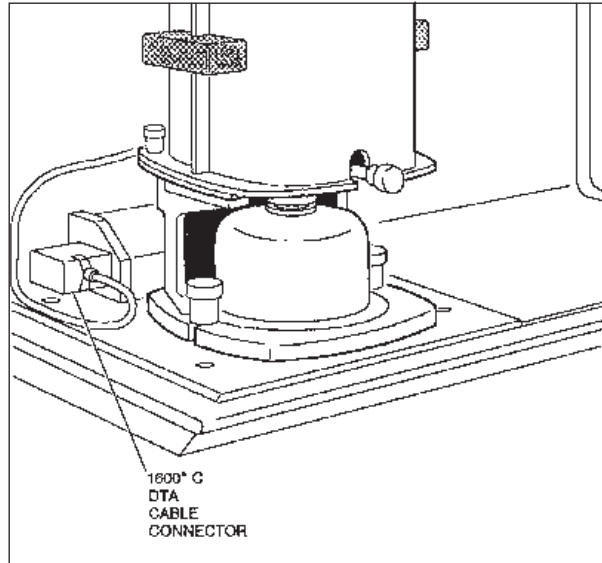

Figure 2.19
5. Plug the DTA cell power cable into the left receptacle on the front of the instrument (see Figure 2.19). The DTA cell is grounded through this cable.